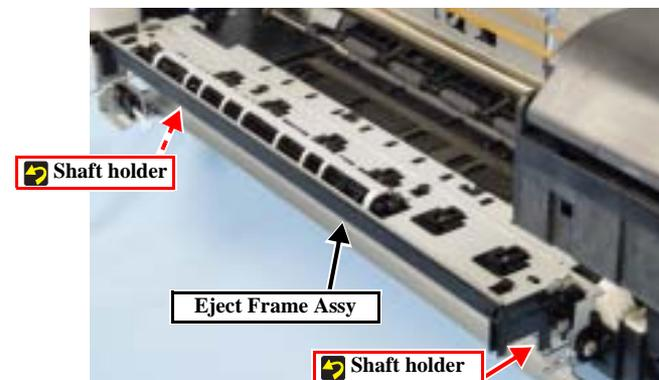

Figure 4-72. Removing the Eject Frame Assy
6. Remove the Eject Frame Assy from the printer body. (Fig. 4-72)
- Fit the shaft holders (left and right) on the underside of the Eject Frame onto the Paper Eject Roller Shaft. (Fig. 4-72)